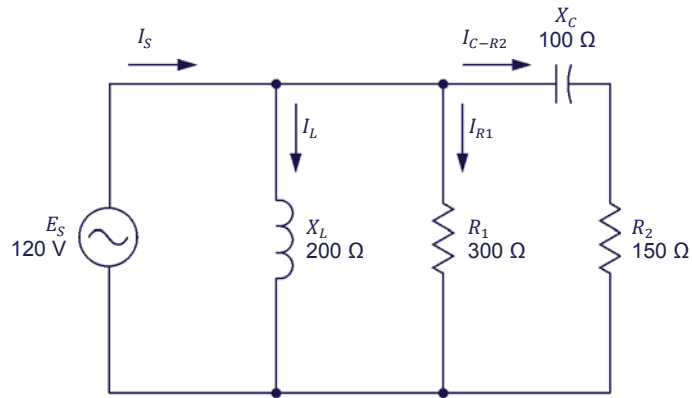

Figure 4-12. AC circuit containing two resistors, an inductor, and a capacitor.
4. Calculate the active power P_{R2} dissipated in the second resistor (R_2) in the circuit of Figure 4-12.
5. Calculate the apparent power S_{C-R2} in the capacitor and the second resistor (R_2) in the circuit of Figure 4-12.
6. Calculate the active power P_{R1} dissipated in the first resistor (R_1) in the circuit of Figure 4-12.
7. Calculate the total reactive power Q in the circuit of Figure 4-12.
8. Calculate the apparent power S in the circuit of Figure 4-12.
9. Calculate the source current I_S in the circuit of Figure 4-12.
10. Calculate the power factor PF of the circuit shown in Figure 4-12.